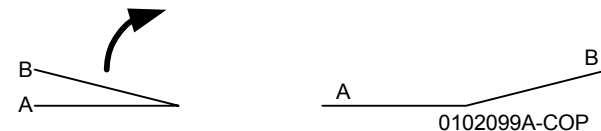

Figure 1 Staple Position
- Measure A and B on both Booklet jobs and verify X1 against specification in Figure 1.